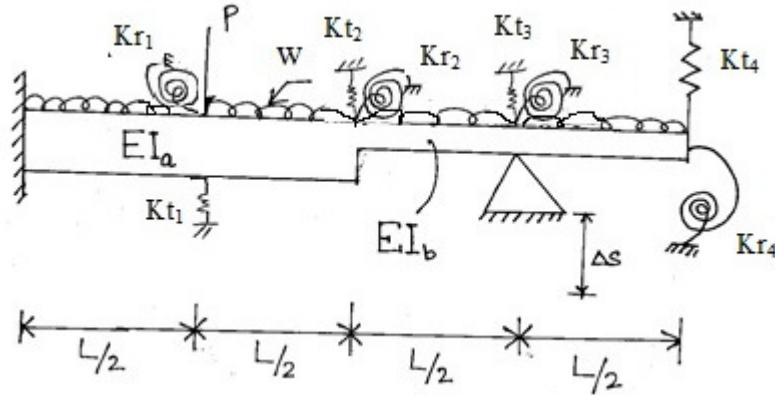

Figure 5.2
- (b) The beam was originally designed without considering possible support settlement. To negate the effect of Δs , the supporting assembly shown in Figure 5.2 is proposed. Evaluate all spring constants of the supporting assembly. Do we actually need all the supporting springs? Comment on your answer.